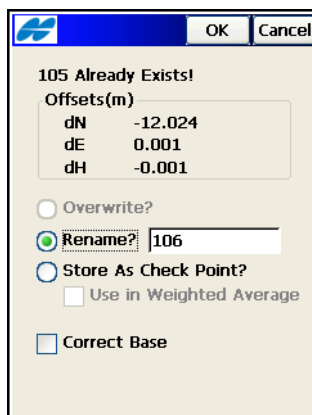

Figure 8-7. Correct Base
- In the **Duplicate Points** screen, check and enable the *Correct Base* box (Figure 8-7). The existing coordinates of the observed point are not replaced by the coordinates of the observed point. Instead, the known coordinates of this point are used to correct the Base coordinates. For *Correct Base* to work properly, the coordinate type selected in *Display* (see “Display” on page 4-76) must be the same as for the known coordinates of the observed Topo point.